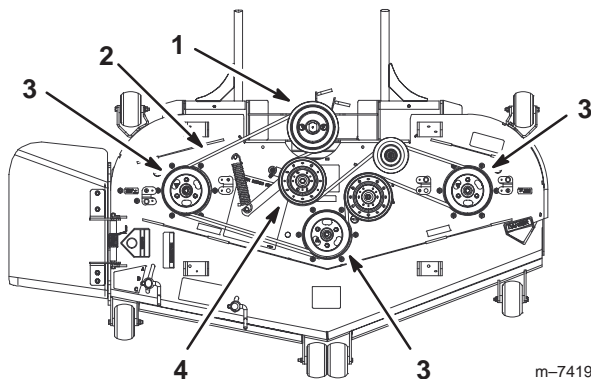

Figure 71
5. Remove the mower belt from the mower pulleys and the top pulley of the three stacked pulleys (Fig. 71 and 74).
6. Install the new belt around the mower pulleys and the top pulley of the three stacked pulleys (Fig. 71 and 74).
7. Pull on the spring loaded idler arm to loosen the belt tension and align the mower belt onto the idler pulley (Fig. 71).
5. Remove the mower belt from the top pulley of the three stacked pulleys (Fig. 71 and 74).
9. Install the mower belt around the mower pulleys and the top pulley of the three stacked pulleys (Fig. 71 and 74).